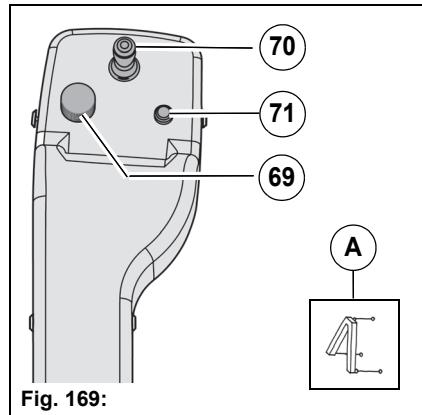

Fig. 169:
1. Switch on the work mode with the Hako button **Fig. 169-71**. The accelerator pedals must be in the neutral position. The coupling triangle work mode symbol appears in the multifunction display **Fig. 169-A**.